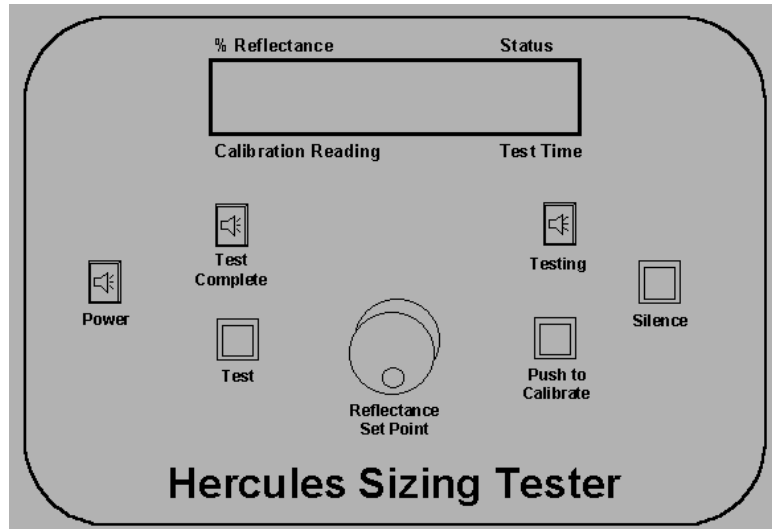

Figure 2-1: HST Operating Panel
2. Set the power switch on back of the instrument to the **ON** position and allow the instrument to warm up (minimum 15 min.) before attempting standardization. The **Power** light on the front panel will illuminate. Press the "**Push to Calibrate**" button to clear the opening screen (Hercules HST V#.#). See **Figure 2-1**.